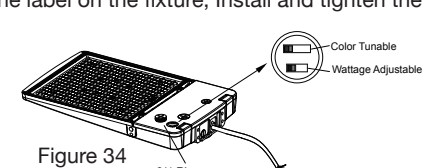

Figure 34
3. CCT & Wattage adjustment (Figure 34)